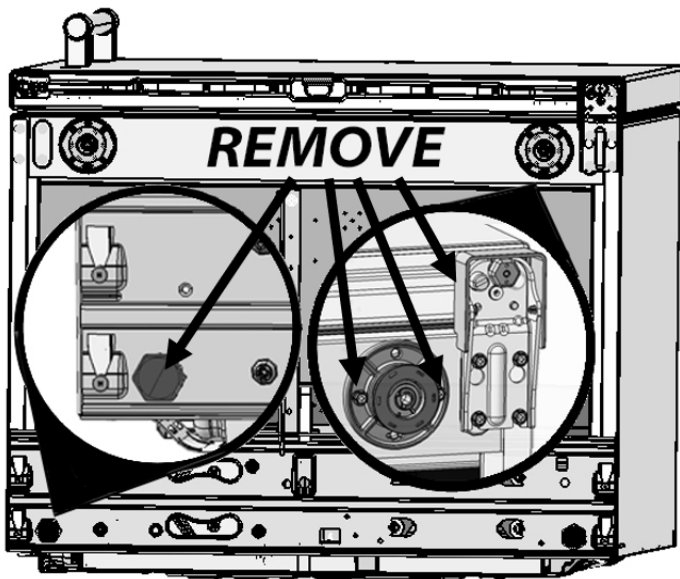

Figure 1
b. Remove **both** rear leg levelers by unscrewing counterclockwise (Figure 1, left detail).
c. Remove **both** front leg levelers by unscrewing the outer peg and two bolts on each front leveler with a 5/16" nut driver. Remove the hinge cover if installed (Figure 1, right detail).